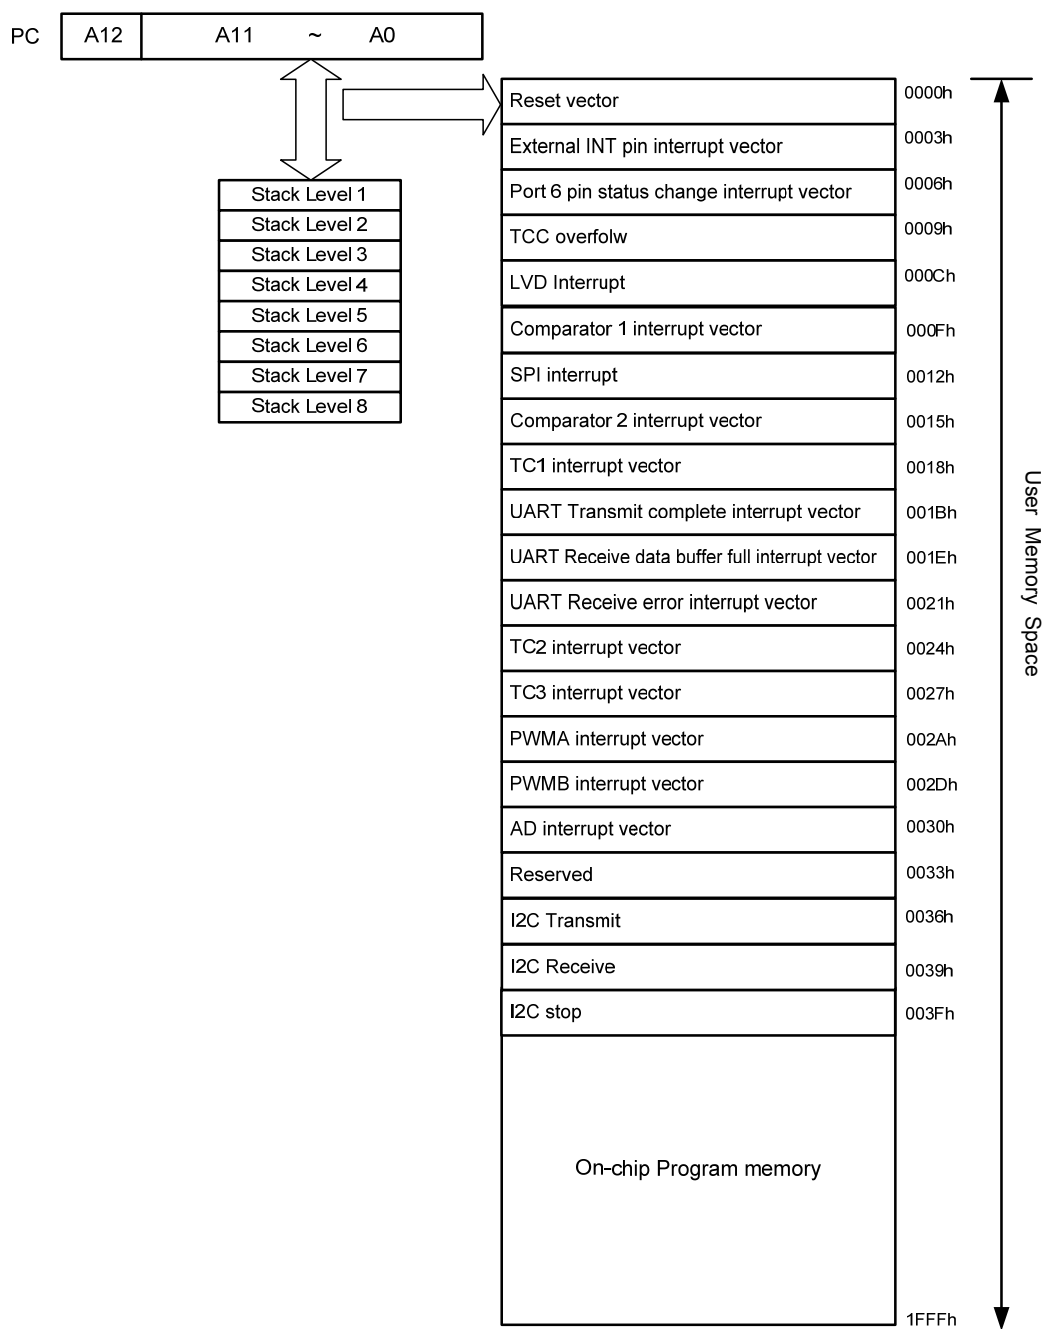

Figure 6-1 Program Counter Organization
- Depending on the device type, R2 and hardware stack are 12-bit wide. The structure is depicted in Figure 6-1.